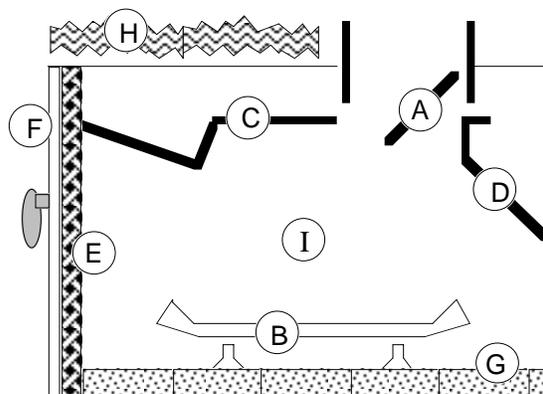

Figure 4
- The damper ("A") and grate ("B") must be removed (see Figure 4). The smoke shelf ("C"), internal baffles ("D"), screen ("E"), and metal or glass baffles ("F") may be removed (if applicable). The masonry lining ("G"), insulation ("H"), and any structured rigid frame members (metal sides, floor, door frame, face of the fireplace, etc. – "I") may not be removed or altered